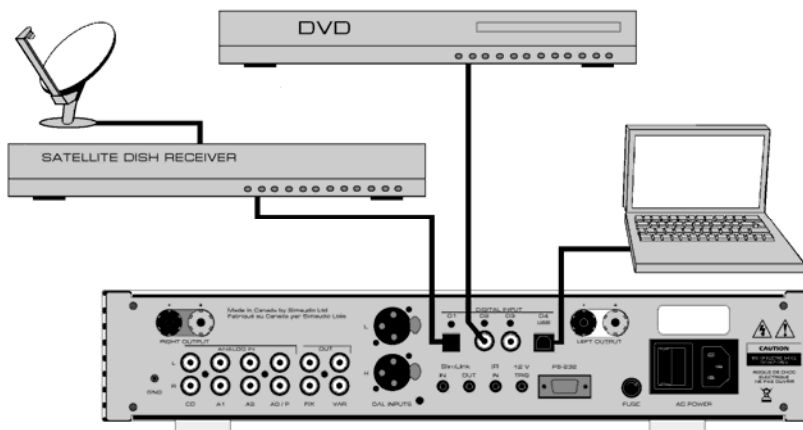

Figure 2: MOON i3.3 Optional Digital Inputs – connection examples
There are two (2) different settings available for setting the resistive load; 100Ω and 47kΩ which are represented by jumper sockets R9 for the left channel and jumper socket R24 for the right channel (refer to figure 2 – section labeled “LOADING”). The factory default setting is 47kΩ, therefore both jumpers will be found in each of the two left most sockets.
There are two (2) different settings available for the capacitive load; 0pF and 100pF which are represented by jumper sockets C9 for the left channel and jumper sockets C17 for the right channel (refer to figure 2 – section labeled “LOADING”). The factory default setting is 100pF for a moving magnet cartridge, therefore both jumpers will be found in each of the two right most sockets.
There are two (2) different settings available for gain level. They are 40dB for MM cartridges and 60dB for MC cartridges, which are represented by jumper socket J17 for the left channel and jumper socket J22 for the right channel (refer to figure 2 – section labeled “GAIN”). The factory default setting is for a MM cartridge, therefore both jumpers will be found in each of the two right most sockets labeled MM; ***It is highly recommended that you do not use the jumpers labeled MC for an MM cartridge as this will overload the preamplifier.*** In the event that you're using a MC cartridge, you should insert the supplied jumpers into each of the two left-most sockets labeled MC.